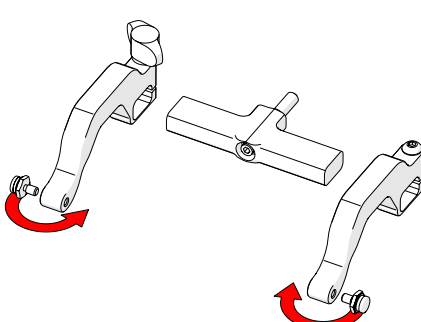

**Fig. 128** - Remove probe holder arms
3. Loosen the arm clamp screw and probe holder arm adjustment knob allowing removal of the probe holder arms (*Fig. 128*).